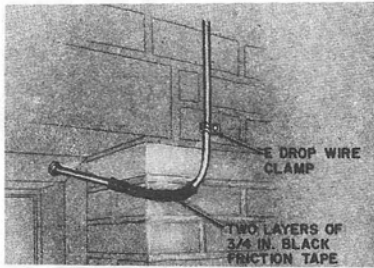

Fig. 31 — Last Attachment, Building Entrance Slopes Upward From Outside
- 13.01 The last attachment (Fig. 31 and 32) should be located within 18 inches of the building entrance hole.